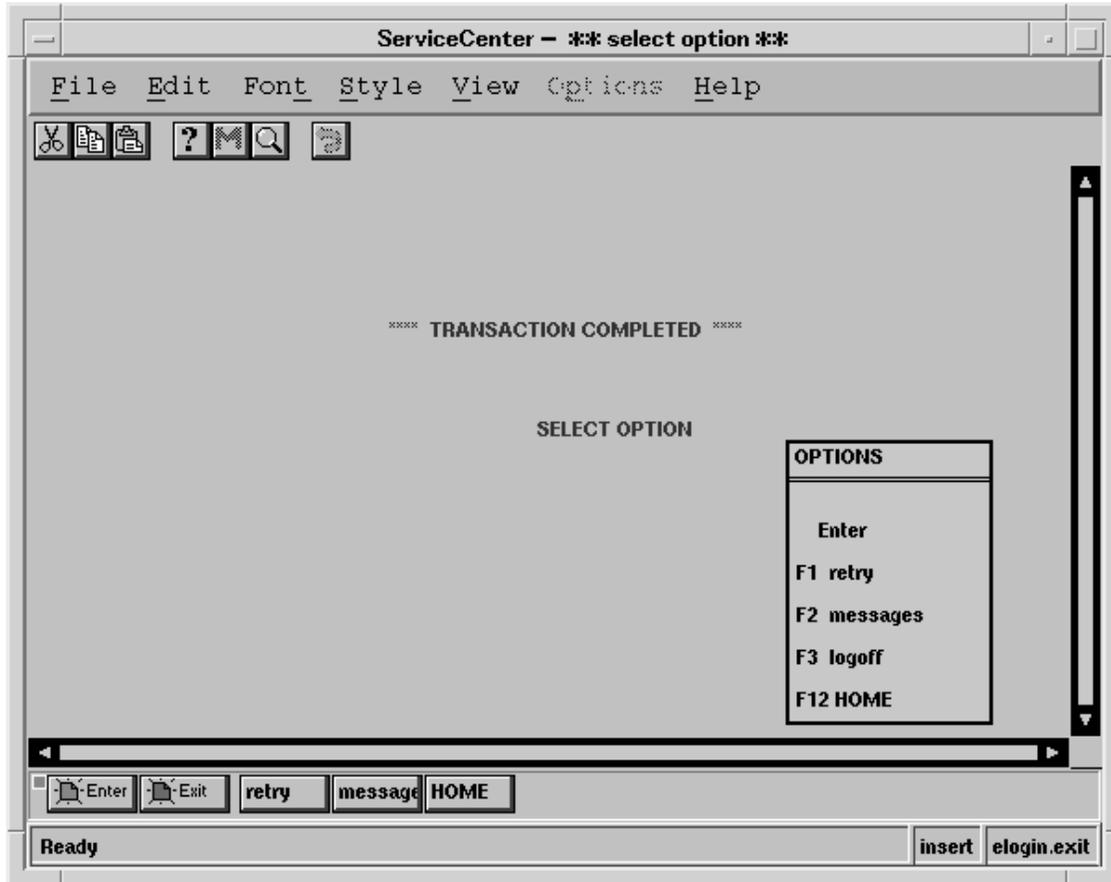

Figure 4-3. Login.exit Screen
4. When the *login.exit* screen is displayed (Figure 4-3), select **F3 logoff** from the popup menu or press the **F3** key to exit the ServiceCenter session.